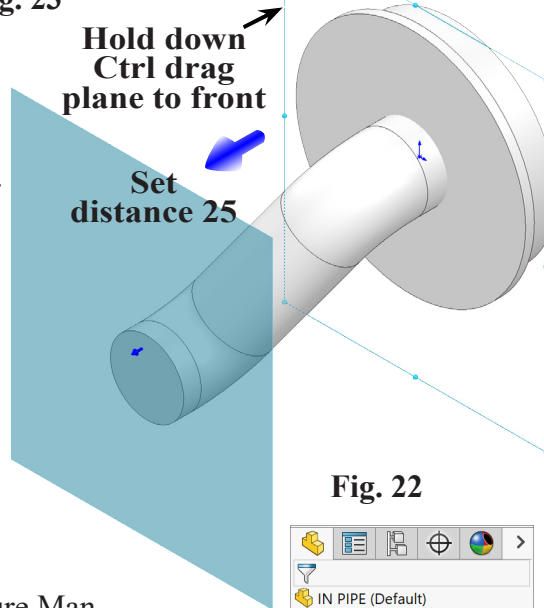

Fig. 22
Step 2. In graphics area **Ctrl drag Front plane to front** and release, **Fig. 22**.
The new plane should be towards front, **Fig. 22**.